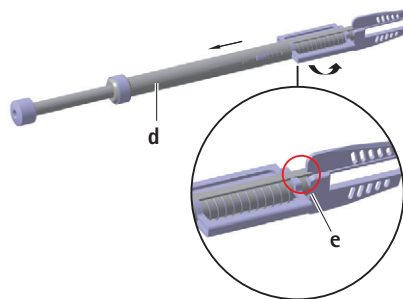

Fig. 3
- ▶ Position guideway **e** on cage **d** in the chisel bridge, see Fig. 3.